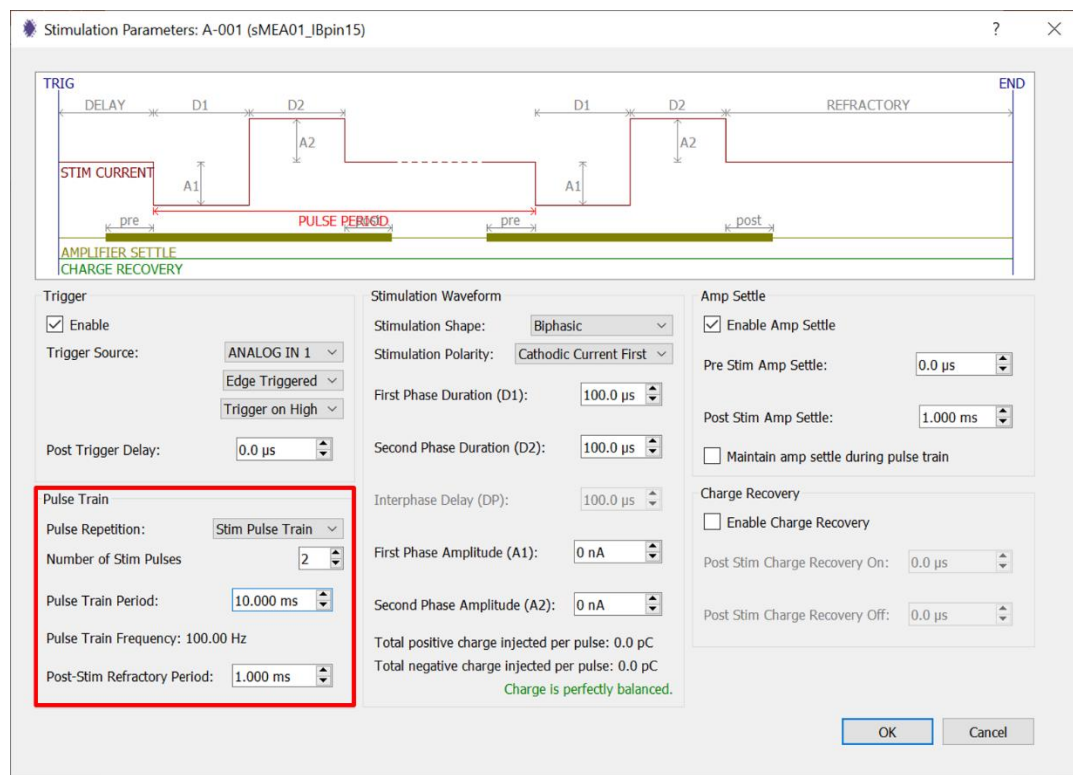

Fig. 75: Stimulation Parameter window with the pulse train panel highlighted.
- 5) The “Pulse Train” panel (**Fig. 75**) allows the user to set stimulus pulse parameters.